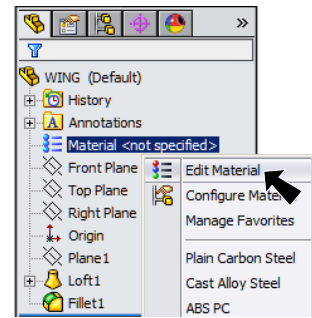

Fig. 16
- Step 1. Right click **Material**  in the Feature Manager and click **Edit Material**, Fig. 16.